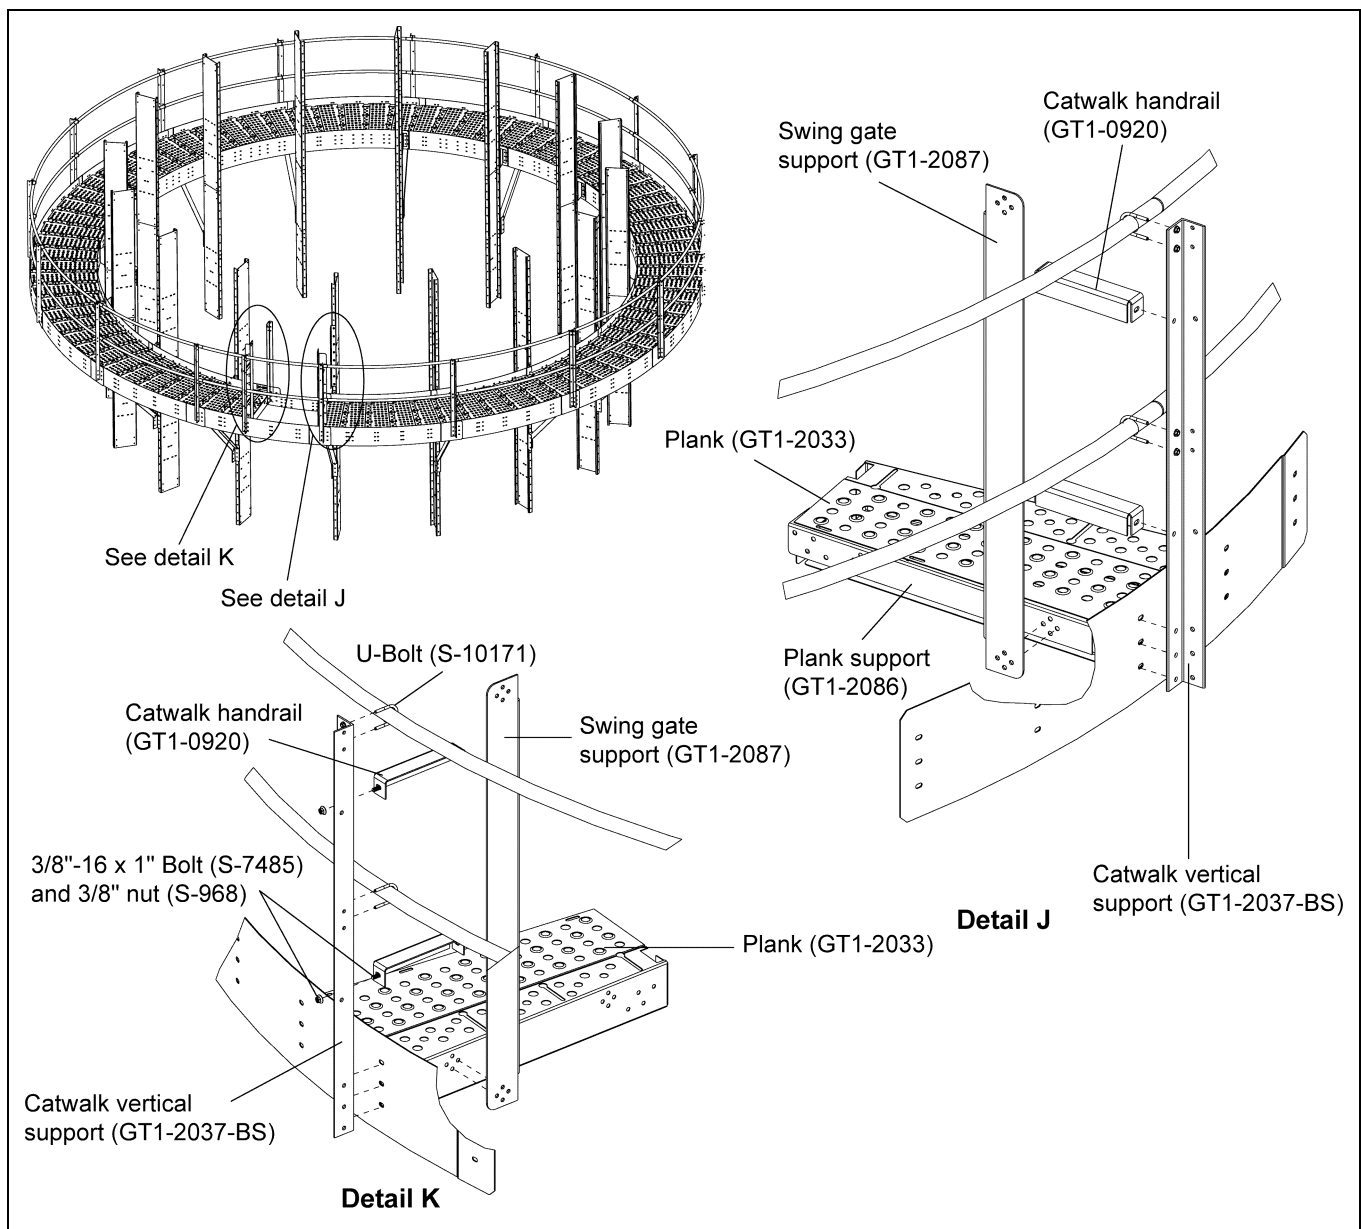

Figure 4X
1. Install the swing gate support (GT1-2087) with the plank support (GT1-2086) using 3/8"-16 x 1" JS grade 8 or grade 8.2 bolts (S-7485) and 3/8"-16 ZN grade 5 nuts (S-968). (See detail J in Figure 4X.)
2. Install two (2) catwalk handrails (GT1-0920) between the swing gate support (GT1-2087) and the catwalk vertical support (GT1-2037-BS) using 3/8"-16 x 1" JS grade 8 or grade 8.2 bolts (S-7485) and 3/8"-16 ZN grade 5 nuts (S-968). (See detail J in Figure 4X.)
3. On the other side, install the swing gate support (GT1-2087) to the plank (GT1-2033) using 3/8"-16 x 1" JS grade 8 or grade 8.2 bolts (S-7485) and 3/8"-16 ZN grade 5 nuts (S-968). (See detail K in Figure 4X.)
4. Install two (2) catwalk handrails (GT1-0920) between the swing gate support (GT1-2087) and the catwalk vertical support (GT1-2037-BS) using 3/8"-16 x 1" JS grade 8 or grade 8.2 bolts (S-7485) and 3/8"-16 ZN grade 5 nuts (S-968). (See detail K in Figure 4X.)